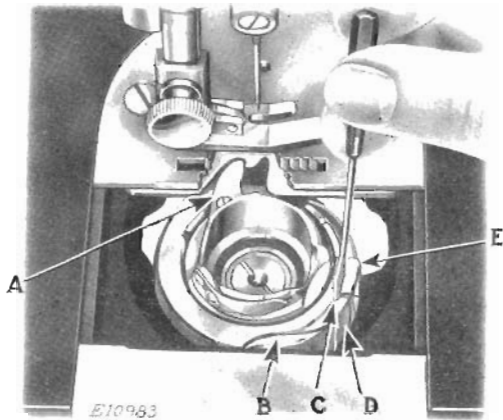
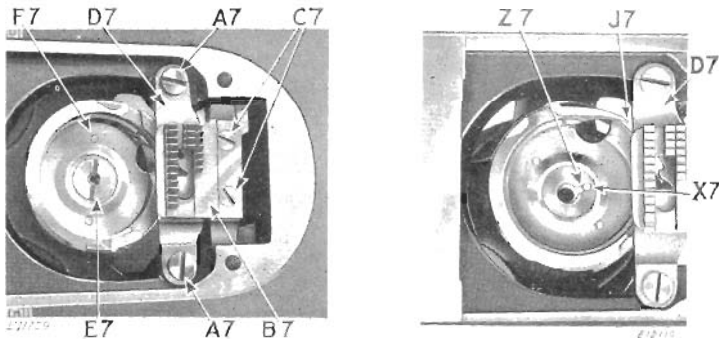

FIG. 30. BOBBIN CASE IN POSITION
FIG. 31. TO REMOVE ROTATING HOOK FIG. 31A. TO REMOVE ROTATING HOOK
To remove the rotating hook bobbin case it is not necessary to remove the throat plate, although for purposes of illustration, throat plate and feed dog are shown broken away in Fig. 30.
Remove rotating hook bobbin from bobbin case. Rotate balance wheel until end of rotating hook bobbin case retaining ring (E) is toward front of machine as shown in Fig. 30. Insert the blade of a small screw-driver into slot (C) between the ring and edge of the rotating hook bobbin case retaining ring spring as shown in Fig. 30. With a downward pressure turn the screw driver one half turn to the right so that the screw driver will drop into
To replace, first put bobbin case in position with rotating hook bobbin case finger (A) in the opening or notch in rotating hook bobbin case position plate under the feed dog as shown in Fig. 30. Turn bobbin case back and forth slightly to make sure it is properly seated, then place hook ring (E) in position with cut-out (B) opposite spring (D). Press the ring into place and turn it in the direction of hook rotation until the spring locks it in position. Replace bobbin.
Move the slide plate to the left, then take out the two throat plate screws and remove throat plate. Remove the two feed dog screws (C7, Fig. 31) and lift off feed dog (B7). When replacing feed dog, insert and tighten feed dog screws (C7).
Move the slide plate to the left and remove throat plate. Remove feed dog as instructed at bottom of preceding page. Remove rotating hook bobbin case position plate screws (A7, Fig. 31) and rotating hook bobbin case position plate (D7). When replacing, make sure that the position plate (D7) is placed to obtain full thread space between rear side (the side farthest from the operator) of rotating hook bobbin case finger (A, Fig. 30) and the adjacent side of the notch or opening in position plate. While tightening screws (A7) apply pressure to the plate (D7) in a backward direction (away from the operator); also to the right, thus insuring that, when screws (A7) are fully tightened, full thread space is provided.
Move the slide plate to the left and remove throat plate. Remove rotating hook bobbin case as instructed on page 42. Remove rotating hook screw (E7, Fig. 31), uncovering rotating hook position pin (X7, Fig. 31A) at upper end of rotating hook shaft.
Rotate balance wheel to bring feed dog to its highest position, and to bring rotating hook point (J7) within $\frac{1}{16}$ inch from rotating hook bobbin case position plate (D7), as shown in Fig. 31A. The pin (X7) will then be in the position shown in Fig. 31A, and the rotating hook can easily be removed. While the removal of the throat plate is not necessary, it is suggested as a convenience when replacing rotating hook bobbin case finger (A, Fig. 30) in its notch in position plate.
To replace, reverse removal operations, keeping pin (X7) in the position shown in Fig. 31A, and making sure that slot (Z7, Figs. 31A and 37), in rotating hook, is in engagement with pin (X7); also that finger (A, Fig. 30) is in its opening or notch in position plate as shown in Fig. 30. Insert and tighten screw (E7) and replace bobbin case as instructed on the preceding page; also replace throat plate.
Were the position plate removed and the bobbin case left in the machine, the rotation of the balance wheel might move rotating hook bobbin case finger (A, Fig. 30) to where the needle could strike it, thus damaging the needle.